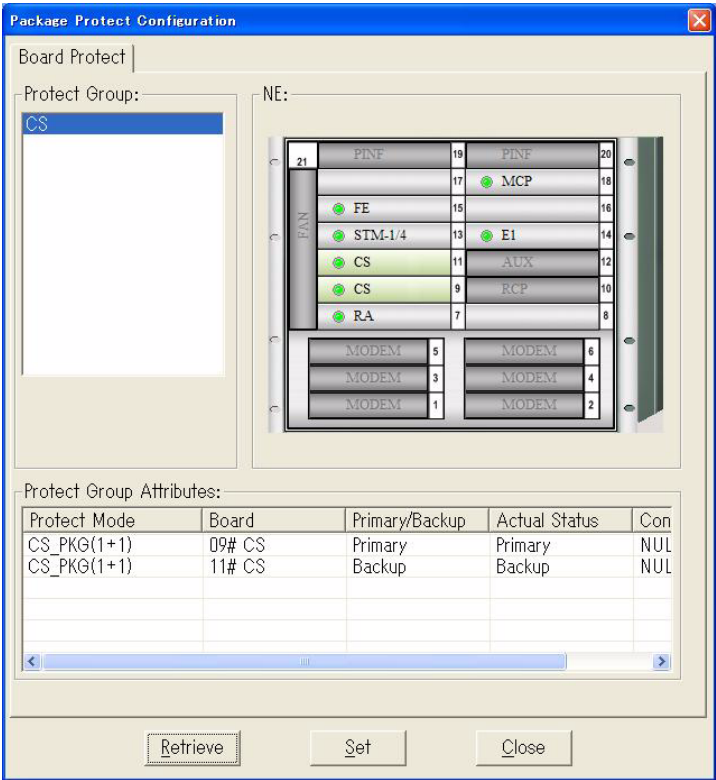

Fig. 4-4-15 Package Protect Configuration
- 1 Open the **Package protect configuration** dialog box as shown in *Fig. 4-4-15*.